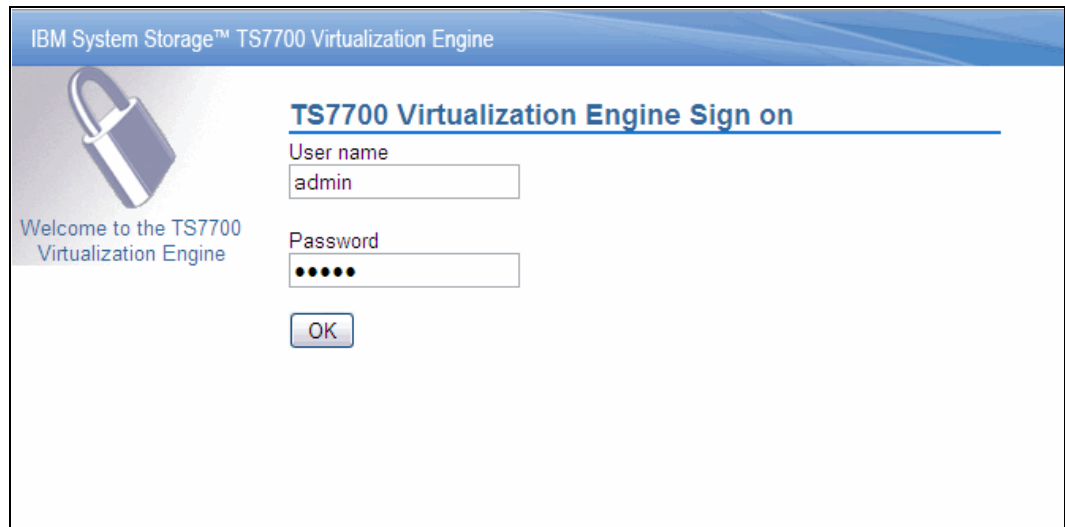

Figure 8-4 TS7700 Virtualization Engine management interface login
3. The login page for the management interface loads, as shown in Figure 8-4. Enter the default login name as `admin` and the default password as `admin`.